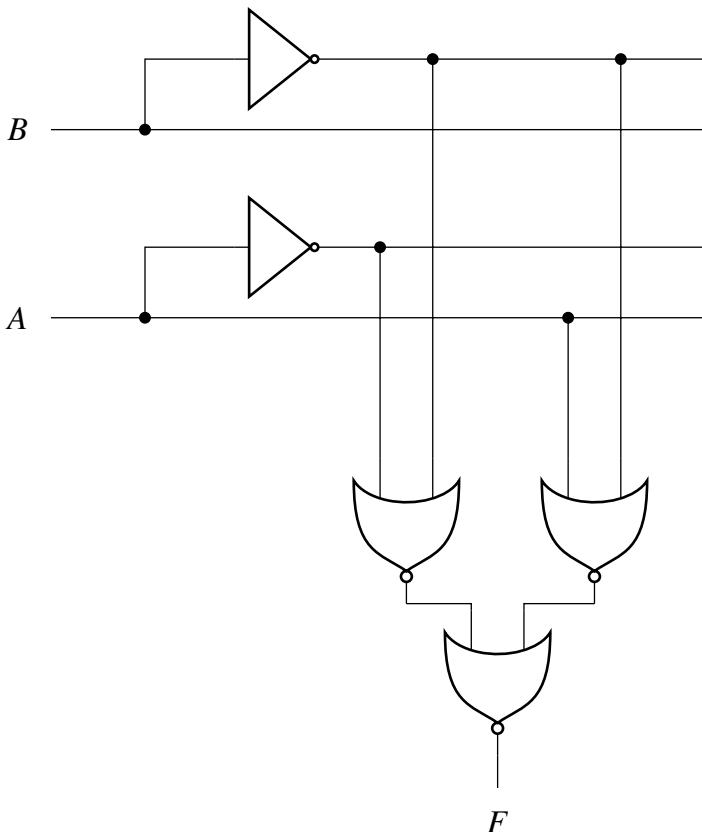

Fig. 4.13: Circuit
27. The logic block shown in Fig. 4.13 has an output  $F$  given by \_\_\_\_\_. (GATE IN 2022)